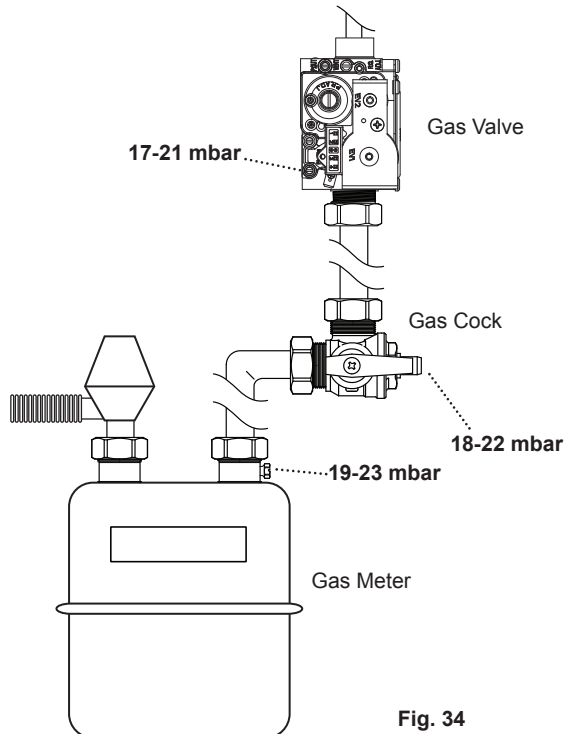

Fig. 34
2. With the boiler operating in the maximum rate condition check that the operational (working) gas pressure at the inlet gas pressure test point is in accordance with B.S. 6798 & B.S. 6891. This must be AT LEAST 17mb at the valve & 18mb at the gas cock ! (Fig. 34)